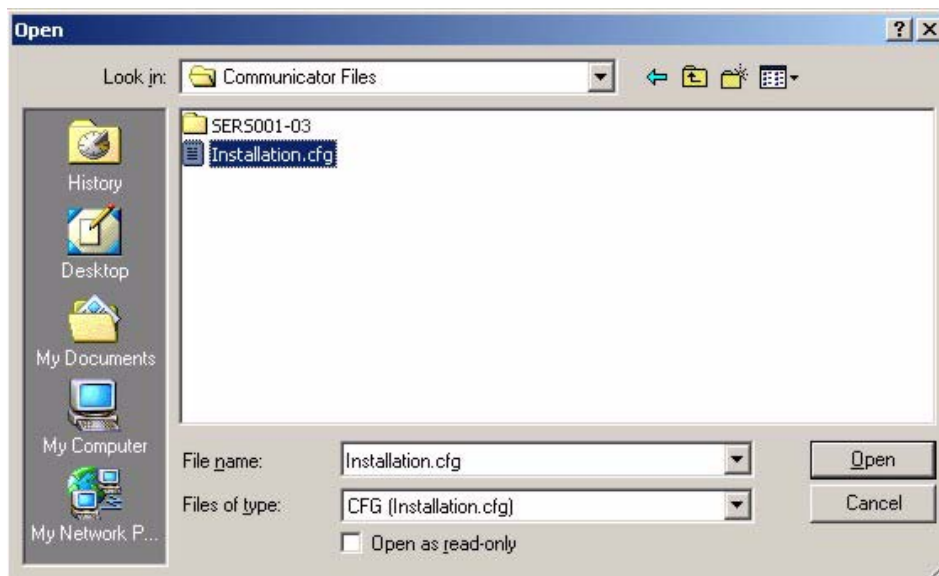

Figure 74 - Communicator Software Installation - Locating the “Installation.cfg” File
2.18 Click on **Communicator Files**, and click **Open** (refer to Figure 74).